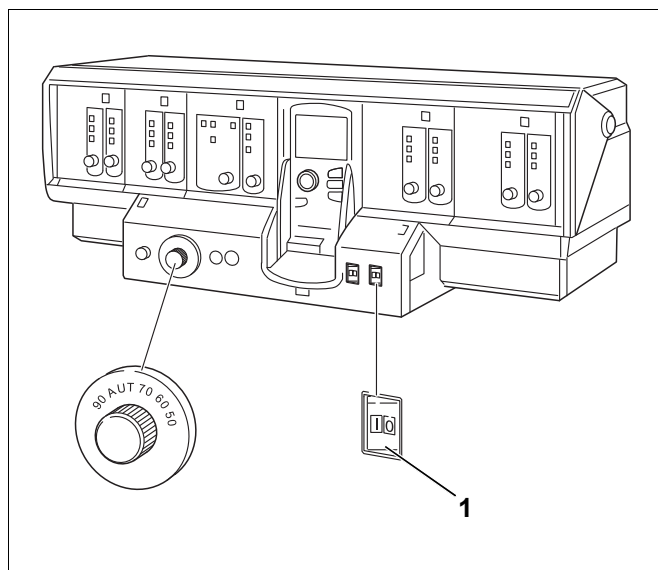

Fig. 70 Example: Logamatic 4311
- Switch the On/Off switch (Fig. 70, **[1]**) on the control unit to "0" (OFF).